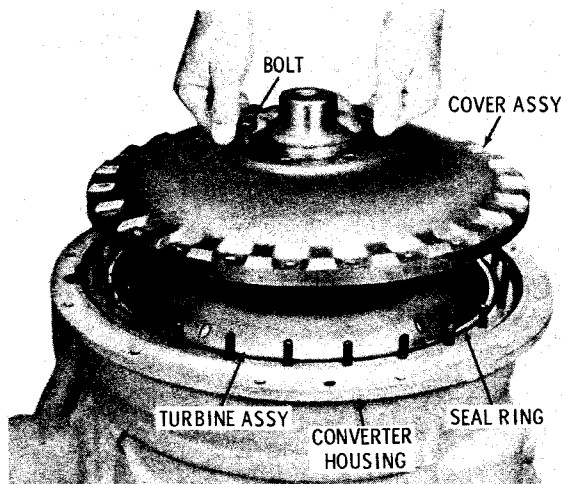

Fig. 7-38. Installing torque converter drive cover—direct mount
(4) If the transmission is equipped with a dry converter housing, install the sealing into the groove in the converter pump split-line (fig. 7-38).
(1) Install the torque converter drive cover (fig. 7-38).